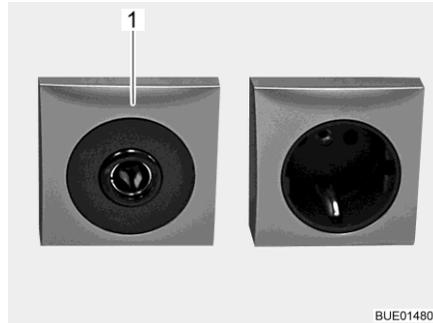

Fig. 106 12 V/10 A socket
- ▷ Only connect devices with a maximum of 10 A to the sockets (Fig. 106,1) of the 12 V power supply.